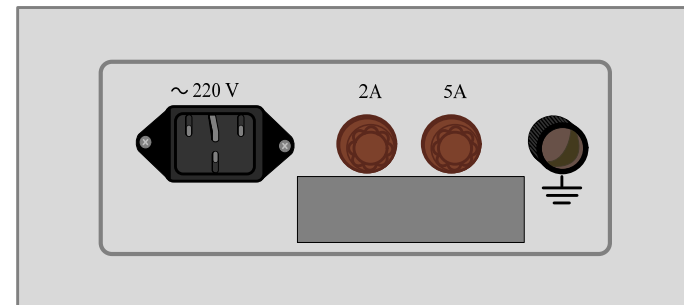

Figure 4
1.4.11 Rear panel of the Tester has (see figure 4):